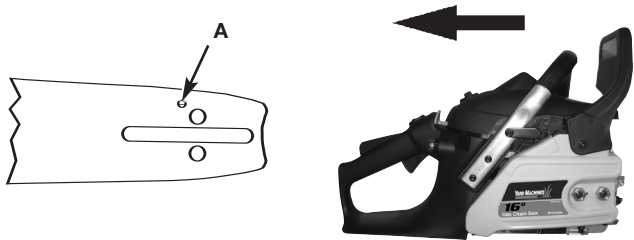

Fig. 22
For personal safety and ease of cutting, the correct position for vertical bucking is essential (Fig. 22).
CAUTION: To ensure the bar and chain receive oil, ONLY USE THE ORIGINAL STYLE BAR with the oil passage hole (A) as illustrated in Fig. 22.
1. Make sure the Chain Brake® lever is pulled back into the DISENGAGED position. (Fig. 22)